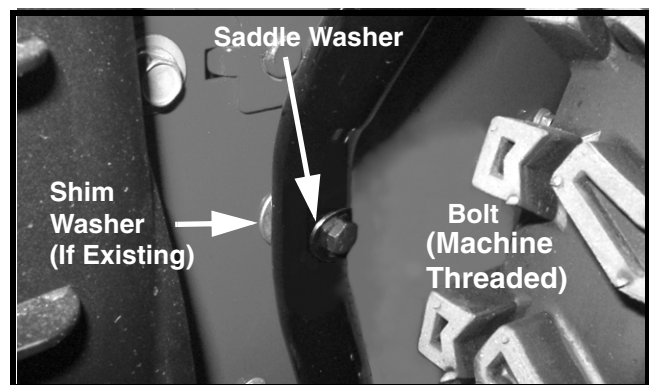

FIGURE 3
5. Install the supplied 5/16"-18 x 1.5" Bolt (Item 1) and Saddle Washer (Item 2) in the upper hole of the chute support tube and tighten. Make sure the saddle washer contour mates with the chute support bracket contour and the shim washer (if existing) is in position. See Figure 3.